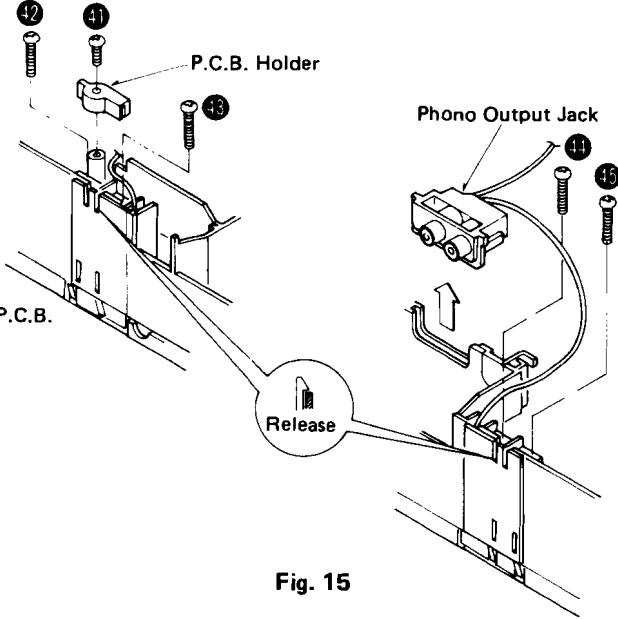

Fig. 15
5. Remove the 4 hinge setscrews (Fig. 15: 42 ~ 45).